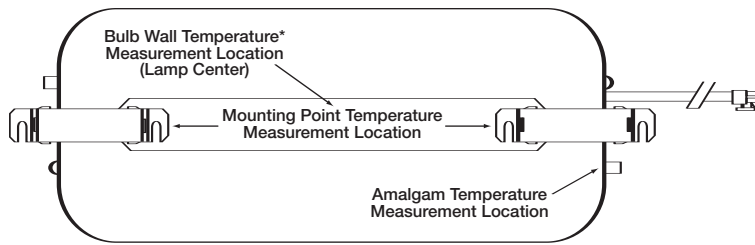

Figure 28: Measurement Points on ICETRON® Lamp
1. Connect thermocouples to the lamp test points and the ballast test point (see figures 28 and 29). Allow enough slack in the thermocouple wires to permit measurements when the fixture is mounted as it would be in the field. Refer to section 4.4.1 for further instructions on mounting thermocouples.